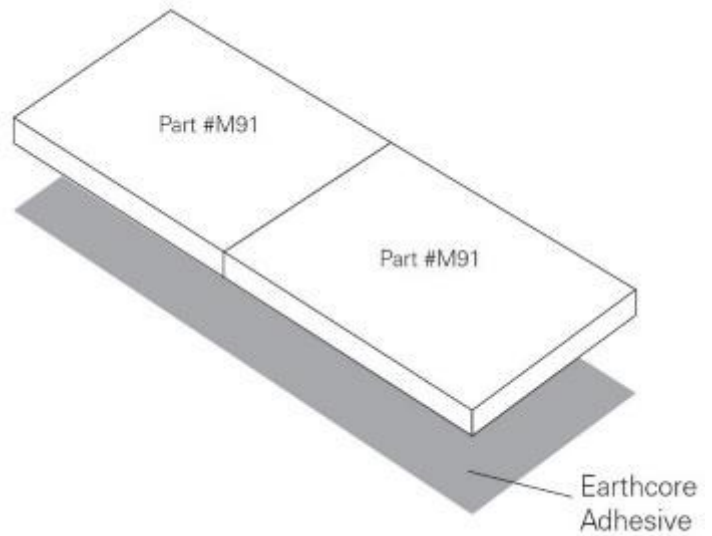

FIGURE 27
1. Apply Earthcore adhesive to the joint between the two #M91's and set the base plates in a full bed of Earthcore Adhesive on a level support surface. See page 14 for supporting floor system. **(Figure 27)** Do not set the base plate so that it is in span. The overall length of the base plate assembly should measure 85½" and 28" deep.